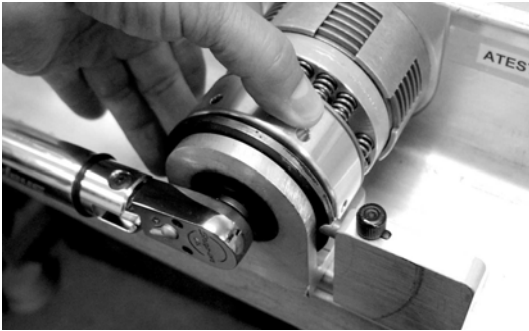

Fig. 1 Loosen to CAL, set 10% of F.S. to CHECK. Fig. 2 Bias wrench up against index
1. Fixture set up: Loosen the fixture torque clutch. (Refer to fig.1 next page) Rotate the index wheel for 180 degree indexing. (no notches on top)
7. Fixture set up: Adjust the tension ring on the ATEST180 fixture to approximately 10% of full-scale torque of the wrench under test. (Fig.1)